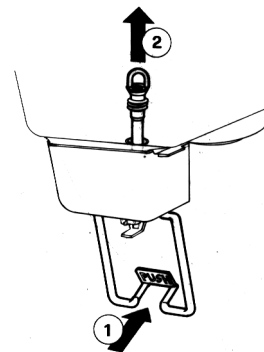

figure 4
- 2 - HT11 - HT20 PS lines: remove pump assembly from its bowl location by turning (1) clockwise and lifting it up (2) (see figure 4).
- 1 - Push (1) the dispensing handle and remove (2) the pinch tube from its vertical seat in the bowl bottom (see figure 4).